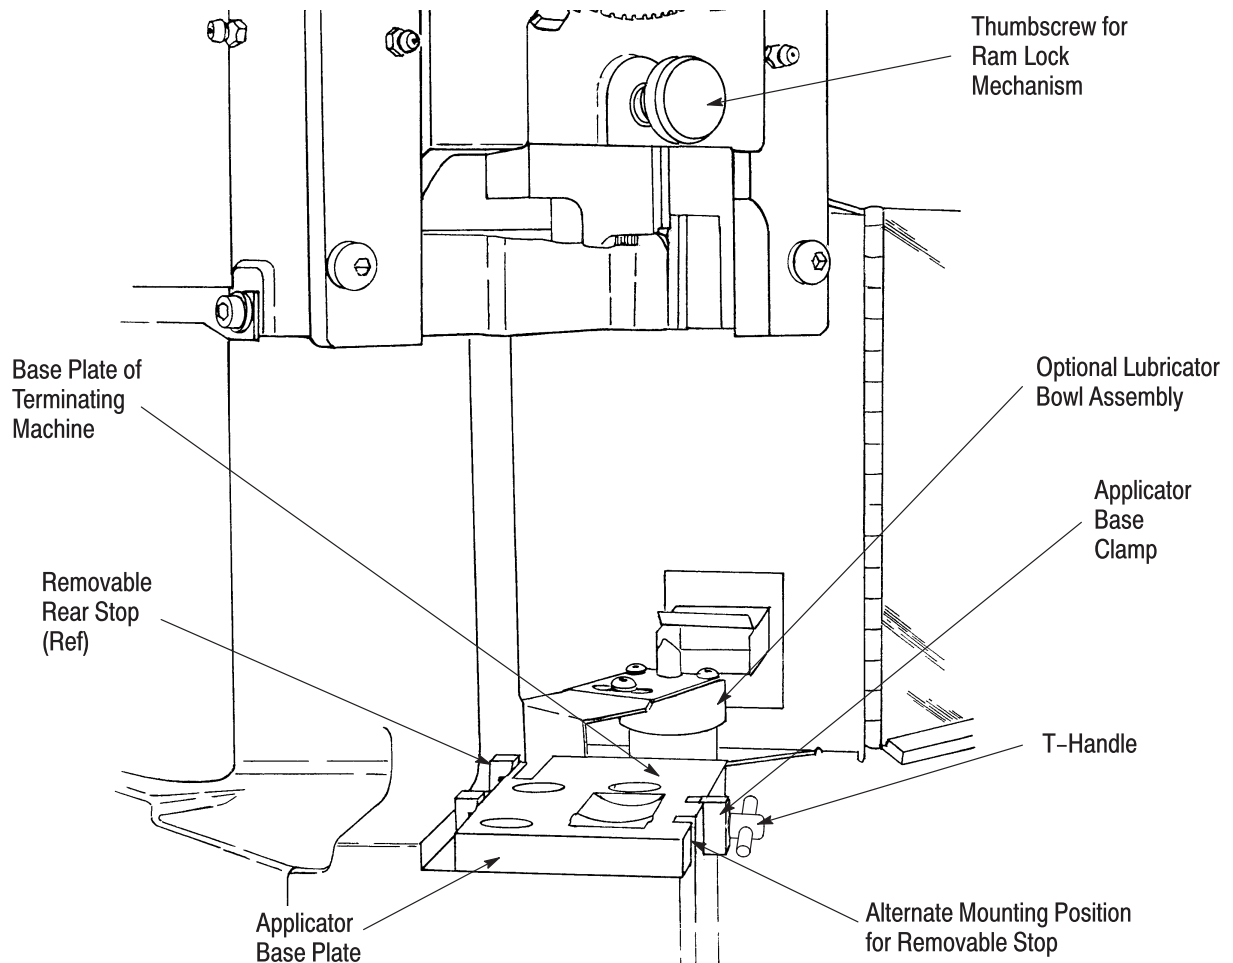

Figure 10
1. Loosen the T-handle and slide the applicator base clamp down. See Figure 10.
For some applicators, it may be necessary to re-configure the base plate by removing the T-handle, the applicator base clamp, and the removable rear stop located on the right side of the base plate. Re-install the rear stop at the alternate mounting position on the base plate. See Figure 10.